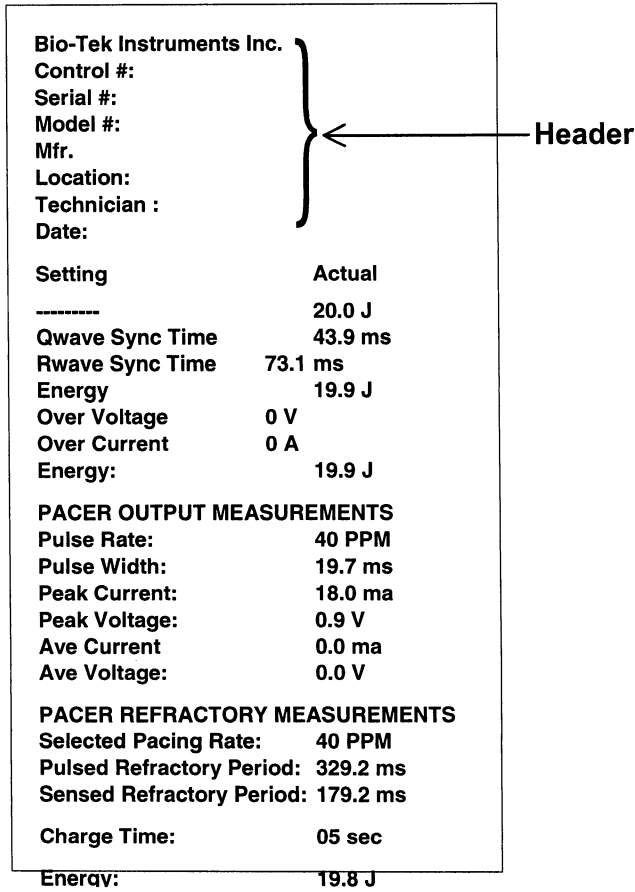

Figure 3.1. Manual Output with Header
- 3) At the Pacer Menu, press the soft key corresponding to **HDR**. The header will be forwarded via the serial port to the target device (computer or serial printer). An example of the header is shown in *Figure 3.1*.
- An example of a standard printout (manual operation) with a header is shown in *Figure 3.1*. During manual operation, results are output to the printer (or computer) immediately after each test is performed.